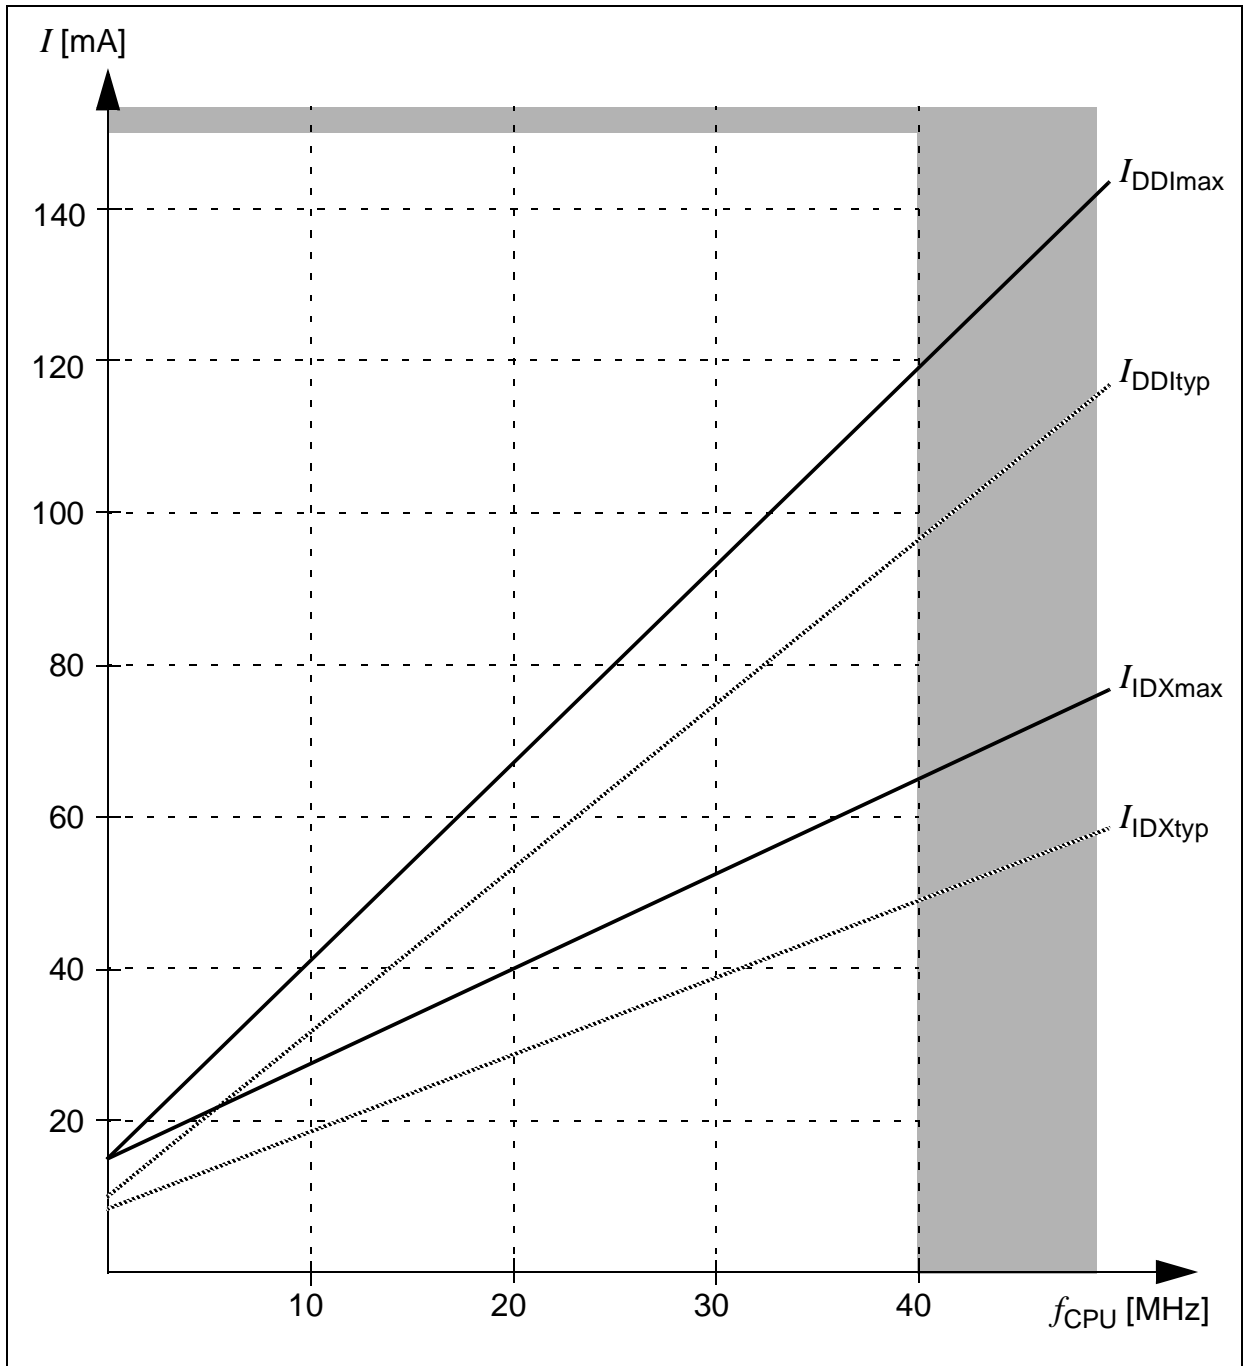

Figure 10 Supply/Idle Current as a Function of Operating Frequency
2) The supply current is a function of the operating frequency. This dependency is illustrated in Figure 10. These parameters are tested at V_{DDImax} and maximum CPU clock frequency with all outputs disconnected and all inputs at V_{IL} or V_{IH} .